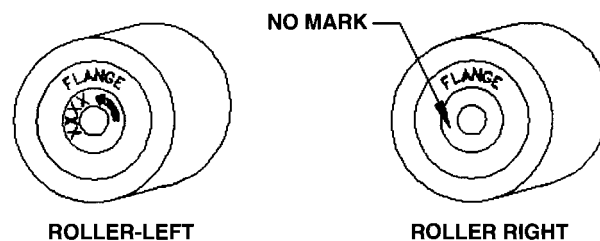

Figure 4-2. Identifying New Left and Right Rollers
4. In your Roller Replacement Kit, locate the two replacement rollers. These rollers are identified as shown in figure 4-2.